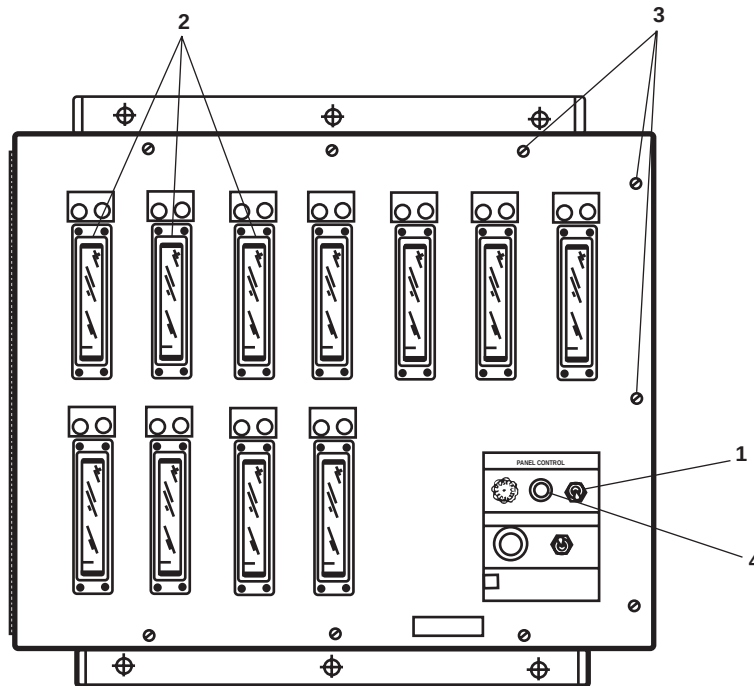
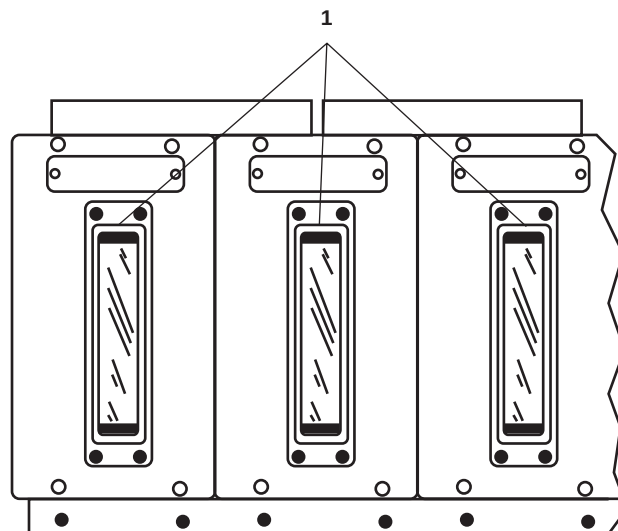
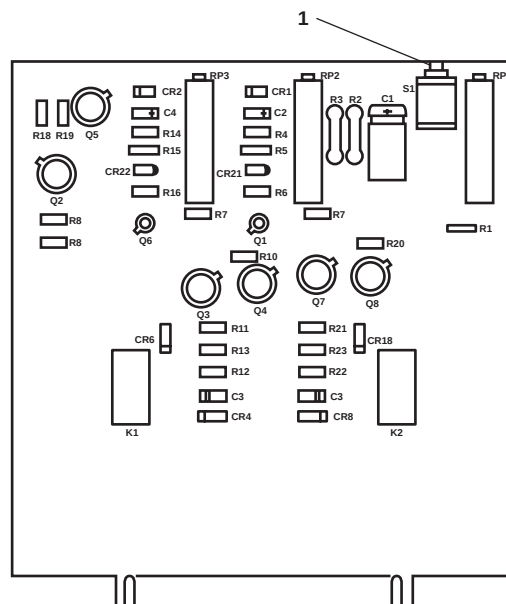

Figure 1. 11 Channel TLI Control Panel
Figure 3. TLI Remote Indicator
Figure 4. Control Module Circuit Card
1. Set the ON/OFF switch (figures 1 and 2, item 1) on the Tank Level Indicators (TLI) control panel in the EOS to OFF.
2. Verify that the fluid meters on the control panel (figures 1 and 2, item 2) and at the remote indicator panel (figure 3, item 1) deflects to zero.
3. Loosen the captive screws (figure 1 or 2, item 3), and open the front panel of the TLI control panel.
4. Set the ON-OFF switch (figures 1 and 2, item 1) on the control panel to ON. Verify that the POWER lamp (figures 1 and 2, item 4) illuminates.
5. To test each level indicator circuit in turn, press and hold the CALIBRATE pushbutton switch (figure 4, item 1) on each control module in the TLI control panel one at a time.
6. While the CALIBRATE pushbutton switch (figure 4, item 1) is pressed, verify that the selected control panel fluid level meter (figures 1 and 2, item 2) and the associated remote indicator panel fluid level meter (figure 3, item 1) deflects to the full-scale position.
8. Release the selected CALIBRATE pushbutton switch (figure 4, item 1).